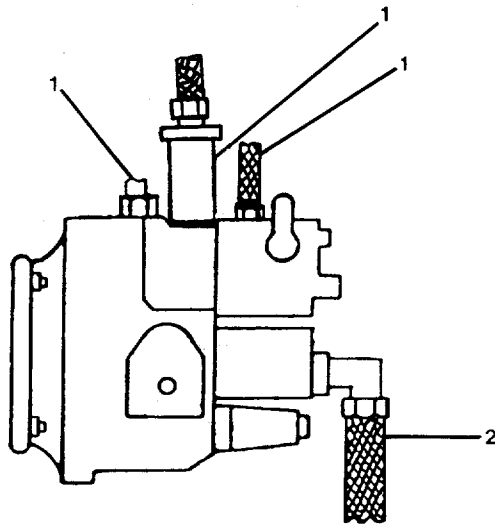
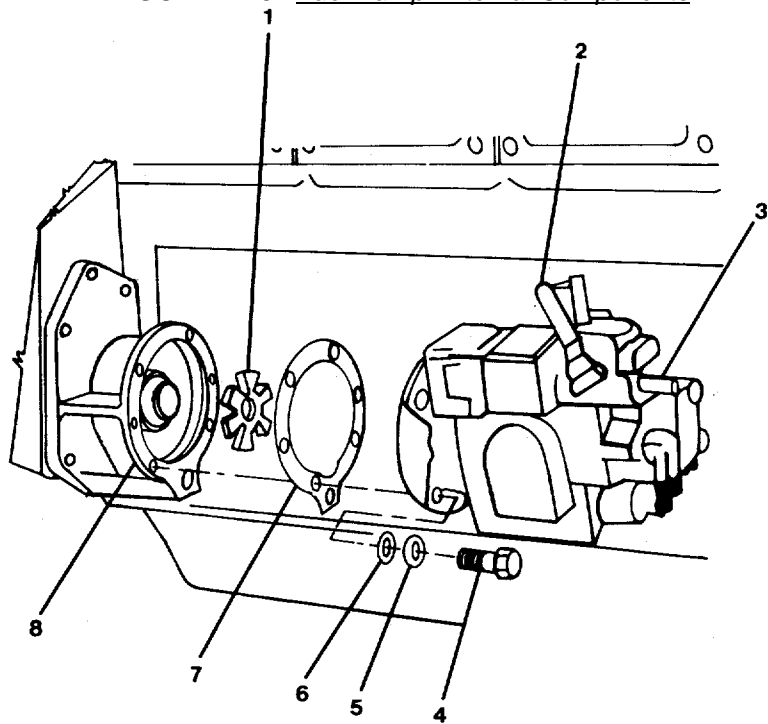

FIGURE 2-26. Fuel Pump External Components.
FIGURE 2-27. Fuel Pump External Throttle Components.
- a. Remove fuel input and output lines (2 and 1, FIG. 2-26) attached to the cam-actuated fuel pump (3, FIG. 2-27).
- c. Remove linkage from throttle lever (2).
- d. Remove four hexagon head capscrews (4), lockwashers (5) and flat washers (6) retaining cam-actuated fuel pump (3) to the engine block (8).
- e. Remove cam-actuated fuel pump (3) and gasket (7). Discard gasket.
- f. Remove flexible coupling insert (1).
- g. Loosen throttle level capscrew and remove throttle lever (2).
- a. Position flexible coupling insert (1, FIG. 2-27) on pump shaft.
- b. Position lockwasher (5) and washer (6) on each hexagon head capscrew (4).
- c. Insert hexagon head capscrews (4) through boltholes in fuel pump mounting flange.
- d. Position gasket (7) on pump mounting flange with hexagon head capscrews (4) through boltholes of gasket (7).
- e. Align flexible coupling insert (1) with drive coupling shaft in engine (8).
- f. Install cam-actuated fuel pump (3) with hexagon capscrews (4) aligned with boltholes in engine (8). Tighten hexagon head capscrews (4) to 35 ft-lb (47 N•m).
- g. Install throttle lever (2) and tighten capscrew until hand tight. Connect linkage to throttle lever (2).
- h. Connect input and output fuel lines (2 and 1, FIG. 2-26).